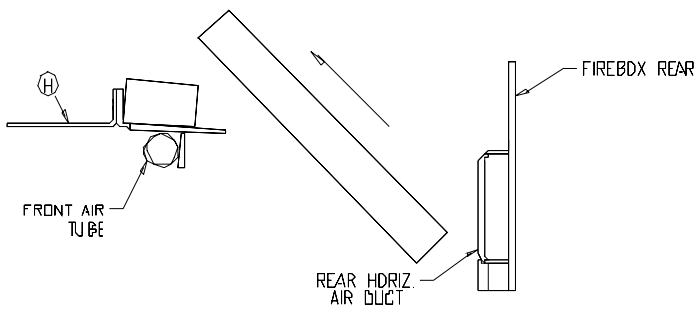
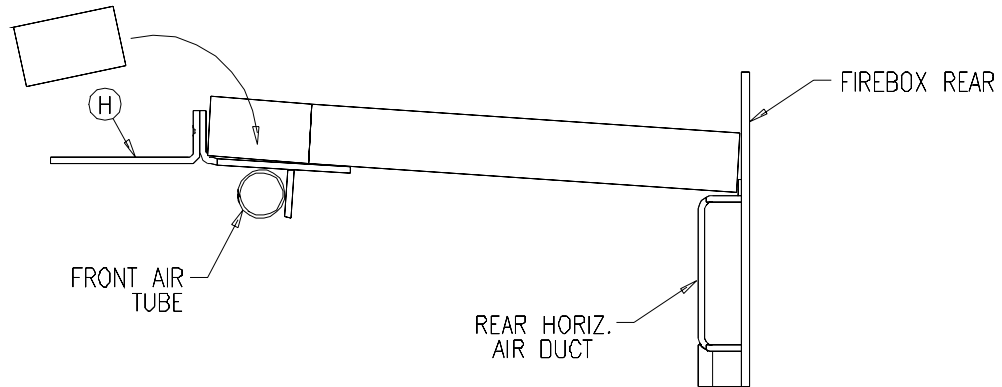

Figure 3.2c
Figure 3.2e
- Starting with the sliding bricks under baffle board first, install the four full bricks (1.25 x 4.50 x 9.00) by positioning the brick(s) under the baffle support assembly (H). Lift the front of the brick over the support and move it forward, then lift the back of the brick up and onto the rear horizontal air duct (see figures 3.2c and 3.2d). The front of the bricks should then rest on the back of the support assembly (see fig.3.2e) Install the smaller centre brick (1.25 x 1.60 x 9.00) last using the same procedure.